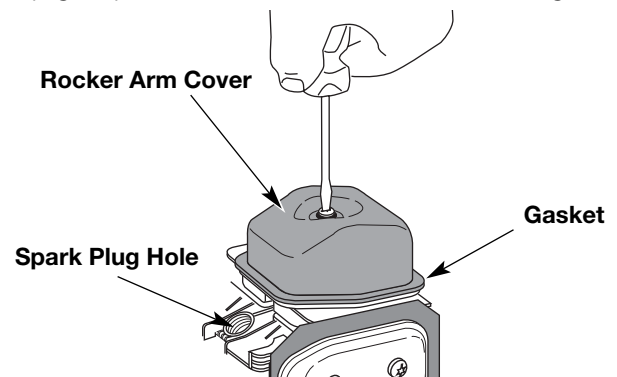

Fig. 27
6. Clean dirt from around the rocker arm cover. Remove the screw holding the rocker arm cover with a large flat blade screwdriver or Torx T-25 bit (Fig. 27). Remove the rocker arm cover and gasket.
- The piston is at the top of its travel while looking in the spark plug hole (Fig. 27)